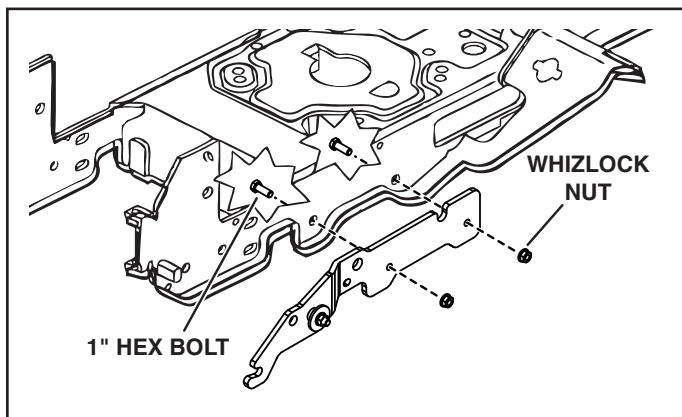

Figure 11.
2. See figure 11. Attach the LH mounting plate to the front left side of the tractor frame using two 3/8-16 x 1" hex bolts and 3/8-16 whizlock nuts.